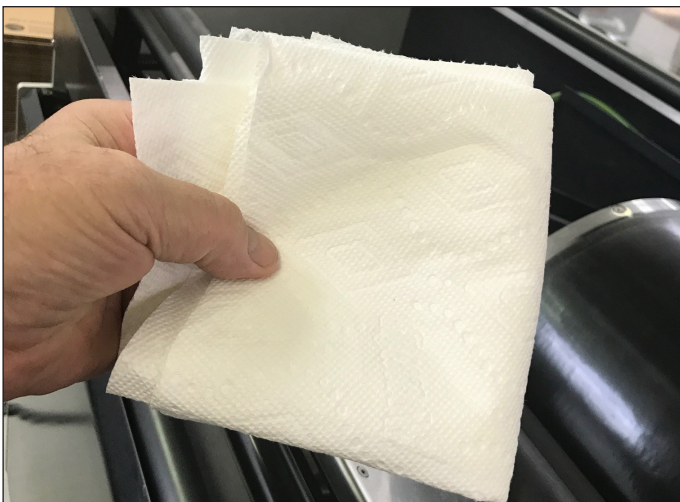
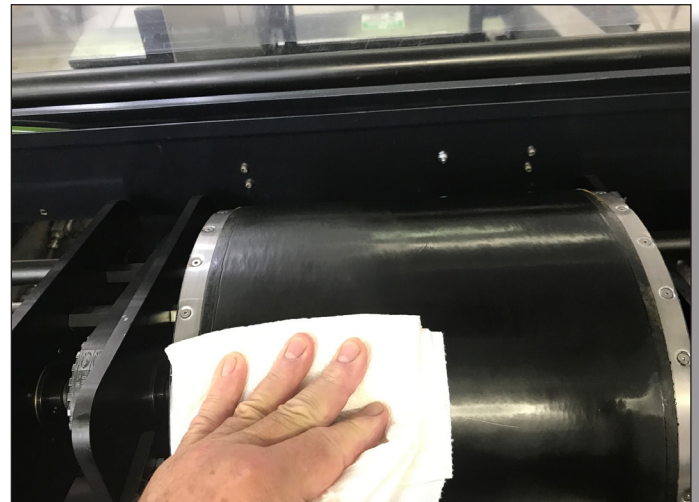

Fig. 5
Fig. 6
3. Remove the old stencil. Make a pad with 4 paper towels, (Fig. 5) and jog the cylinder around while holding the pad in pressure with the print pad. (Fig. 6) This forces the residual ink in the pad back into the cylinder. This takes two passes, leave the cylinder in the home position without a stencil in place.